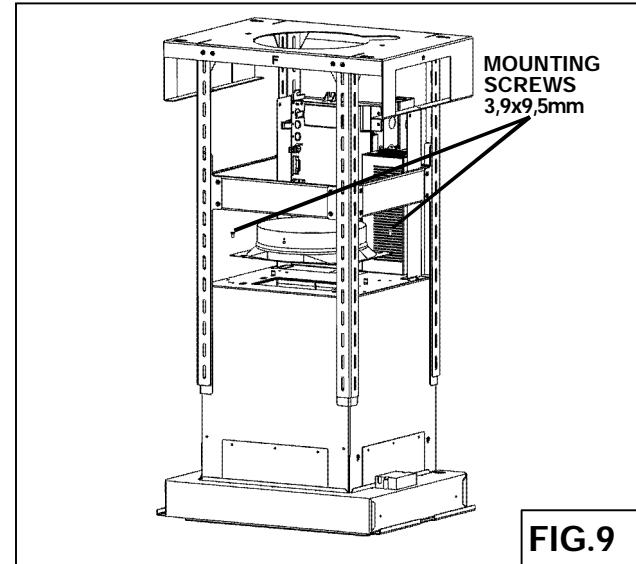

FIG.9
5. Fix the duct connector to the hood by using 2 screws (3.9x9.5mm) located in the Hardware Package (Fig.9).